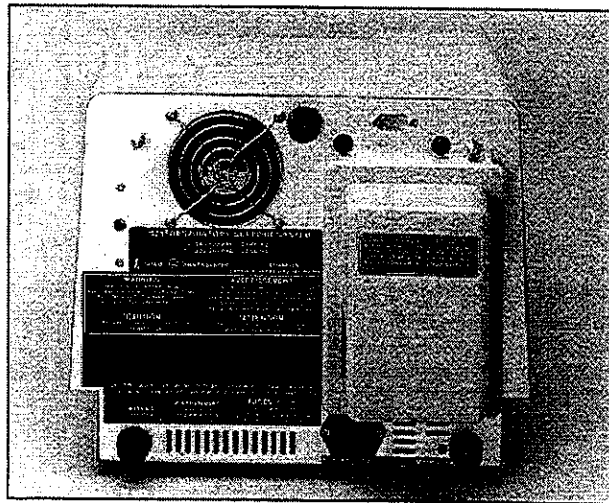

Figure 3-1: *KnightStar 335* Rear Panel
2. Remove the fuse drawer and verify fuses with correct ampere rating are installed as indicated on the rear panel of the *KnightStar 335* (Figure 3-1). Reinstall fuse drawer.